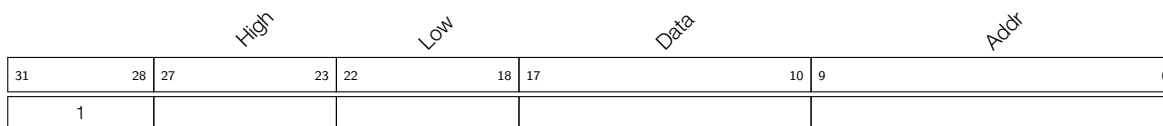

Figure 1-25. Instruction Type - REG\_WR
**Operand**    **Description** - see Figure 1-25